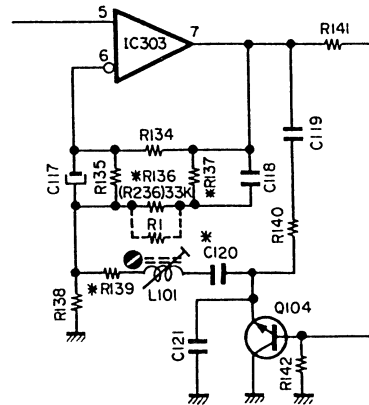

Fig. 6.3.9
- b) If compensation is still insufficient, add resistor R1 2.2 M Ω – 560 k Ω in parallel to R136 (R236) on the Record Eq. Amp. P.C.B. Ass'y as shown in Fig. 6.3.9. When 560 k Ω is added, approx. 0.3 dB will be compensated.